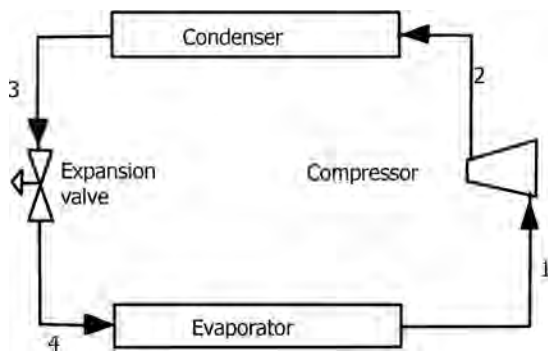

FIGURE 12.1 Typical vapor compression refrigeration cycle.
- Refrigerant vapor is compressed, increasing its temperature and pressure (points 1 and 2 in Figure 12.1), condensed with water or air (points 2 and 3), rejecting heat to the surrounding environment, and then expanded to a low pressure and correspondingly to low temperature through an expansion valve or an engine with power takeoff (points 3 and 4).